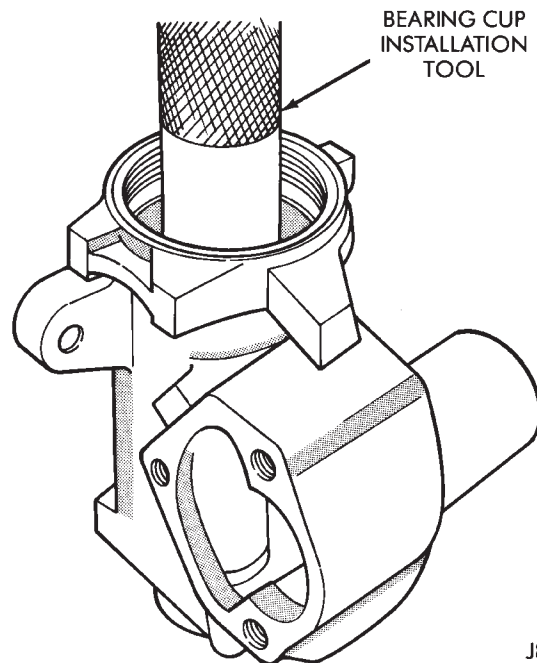

Fig. 11 Wormshaft Upper Bearing Cup Installation
(2) Install a replacement bearing cup with an appropriate installation tool (Fig. 11).